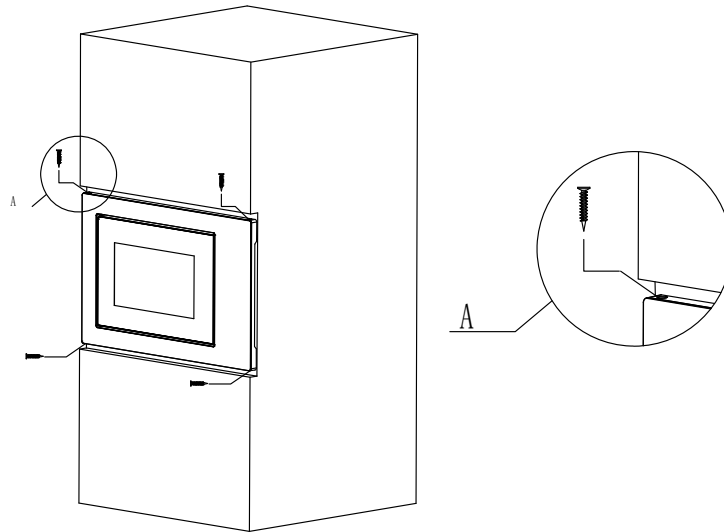

Fig.4
e) Use the screws of parts packing to secure the microwave oven in the cabinet. (Fig.4)